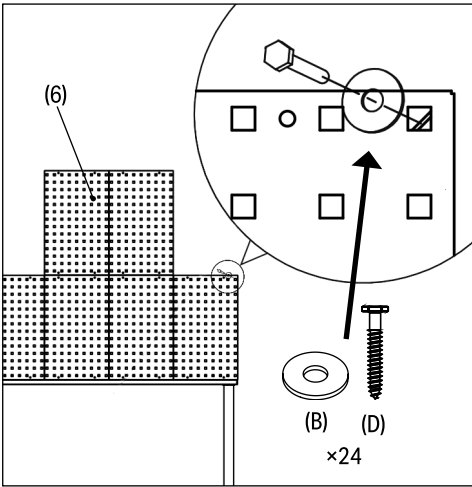
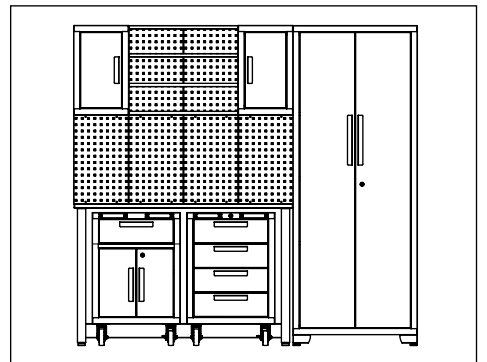

Fig. 8
Fig. 12
8.1 Setup (Fig.8 – Fig.12)
Align the pegboards (6) and screw into the wall using 24 × hex tapping bolts (D) and flat washers (B) (Fig.8).
5. Workstation setup complete (Fig.12).